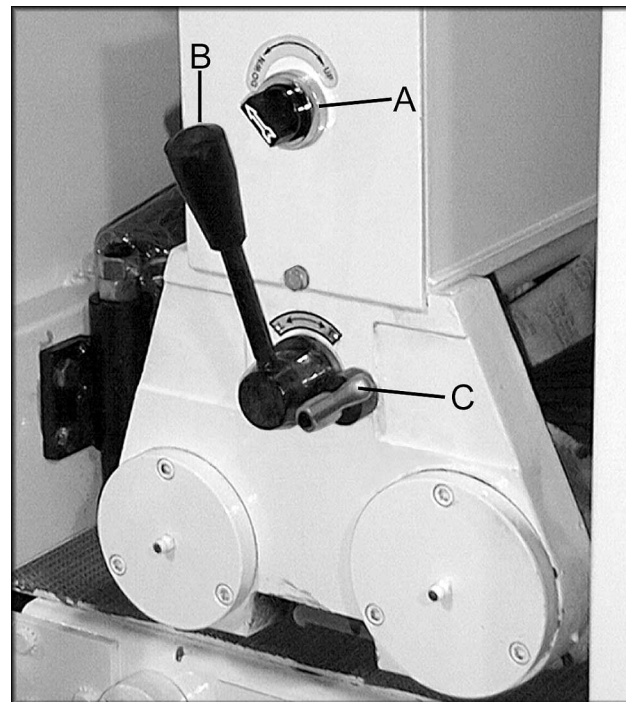
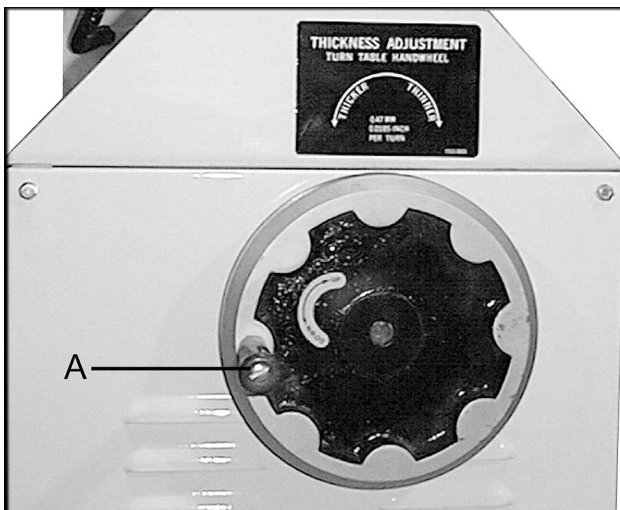

FIGURE 8
FIGURE 9
3. Engage the upper roller by turning the knob (A), Figure 8, to the upper position.
4. Adjust the platen with the lever (B) and lock it (C) in the desired position. The platen or main rubber roller can act as the sanding contact, as well as a combination of both.
5. Rotate the main handwheel (A), on the lower cabinet, to raise or lower the table. See Figure 9. Refer to the scale for the desired setting. The recommended depth of sanding is .0164" or two revolutions of the handwheel. The table can be locked in place by the lever at the base of the column.